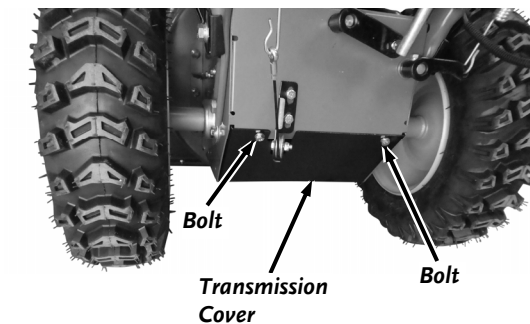

Figure 61
3. Remove the two Bolts that secure the Transmission Cover using a 13mm Wrench and Remove the Transmission Cover (**Figure 61**).
14. Install the Transmission Cover (**Figure 61**).